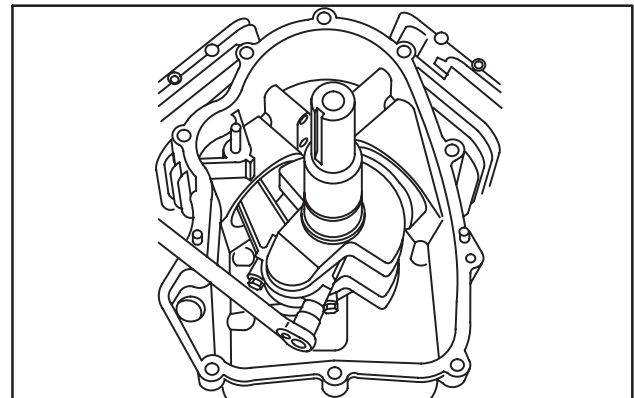

Fig. 4 – Torque Connecting Rods
4. Assemble connecting rod cap to rod with match marks aligned, Fig. 4.